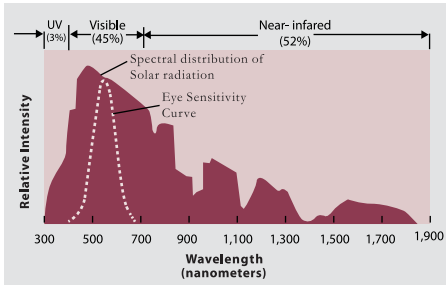

Fig. 9: Solar Spectrum
appropriate technology to address them. The three components of the solar radiation are: Ultra-Violet (UV), Visible, and Near-Infrared (NIR)- Fig. 9. While half of this energy is invisible, either in the UV or NIR, it must still be considered in the selection of glazing. Standard, untreated glass is naturally transparent to 85 percent of the